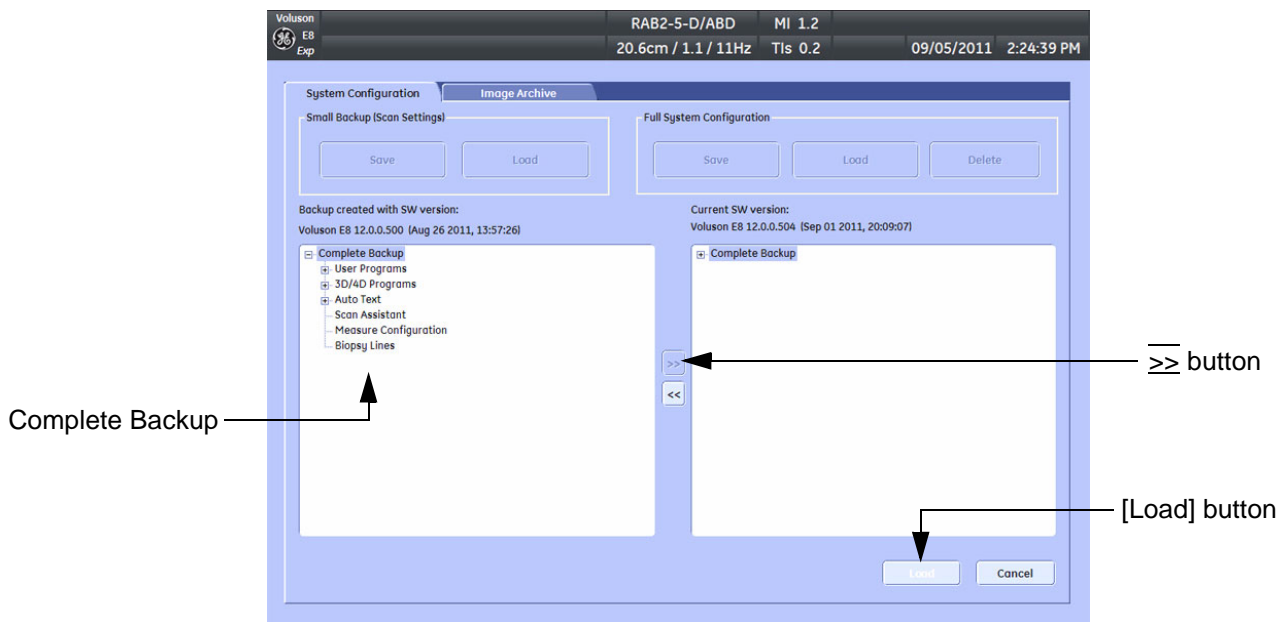

Figure 4-25 Load Backup Data
- 2.) Select the “**Complete Backup**” (marked blue; see: Figure 4-25 below) and click the >> button to copy the Complete Backup into the Load Data field.